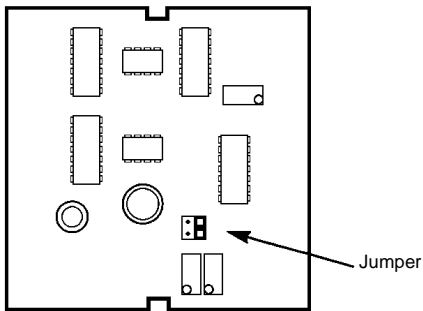

Fig.3
- If a 0 to 5Vdc output is required, set the jumper to the correct position - see Fig.3 and Fig.4.